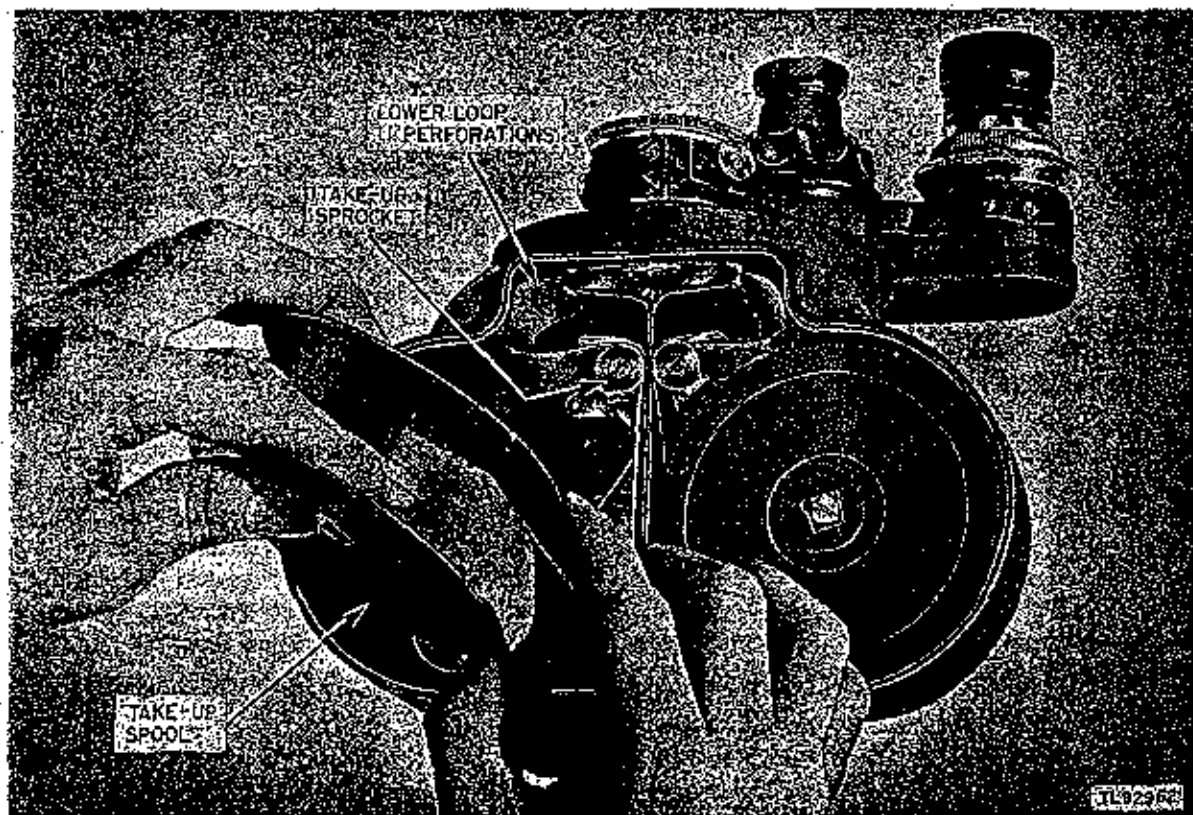

Figure 28. Loading. Camera PH-330-(*): inserting film leader in take-up spool.
l. Insert the end of the film into the slot on the hub of the take-up spool (fig. 28), winding it clockwise until most of the slack film has been wound on. Place the spool on the take-up spindle.